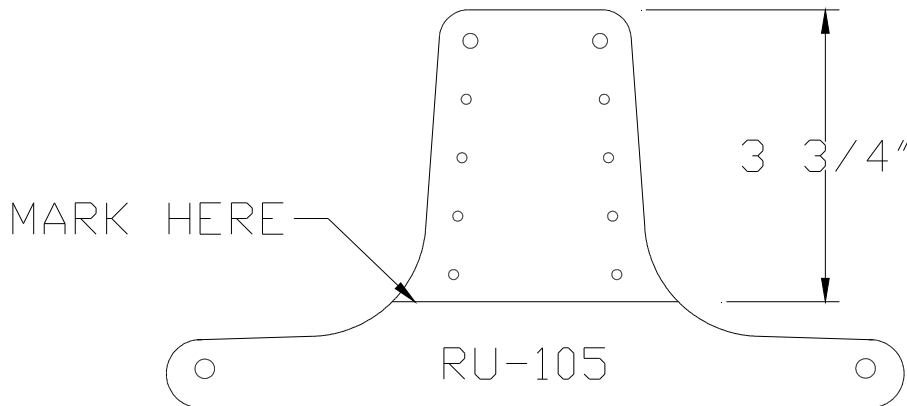

Figure 4.2.7
13) Draw a line on the Rudder Horn (RU0105) 3 3/4" from the back edge. Figure 4.2.7.